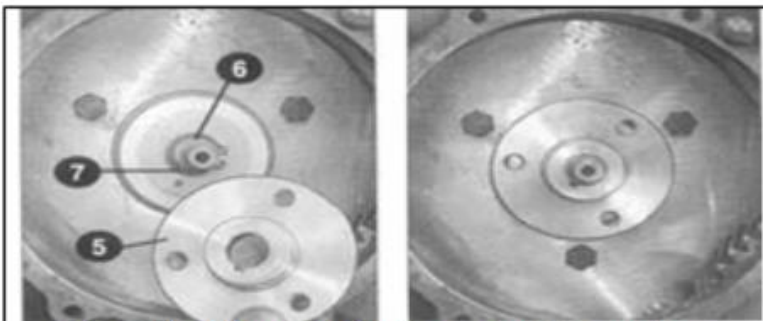

Fig: 14. View of fitting of FIP coupling
- e) Fit FIP coupling (5) on to the pump drive shaft (6) [Match FIP coupling key way with FIP drive shaft key (7)] as shown in Fig: 14.